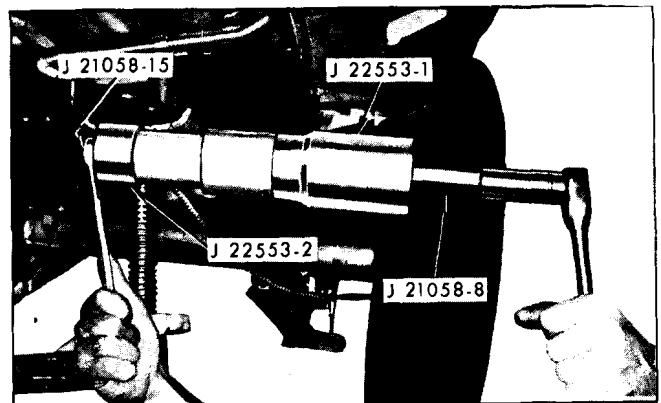

Fig. 4-27 Installing Leaf Spring Front Bushing (F Series Shown)
1. Position installer adapter J 22553-2 over flange end of bushing (Fig. 4-27).